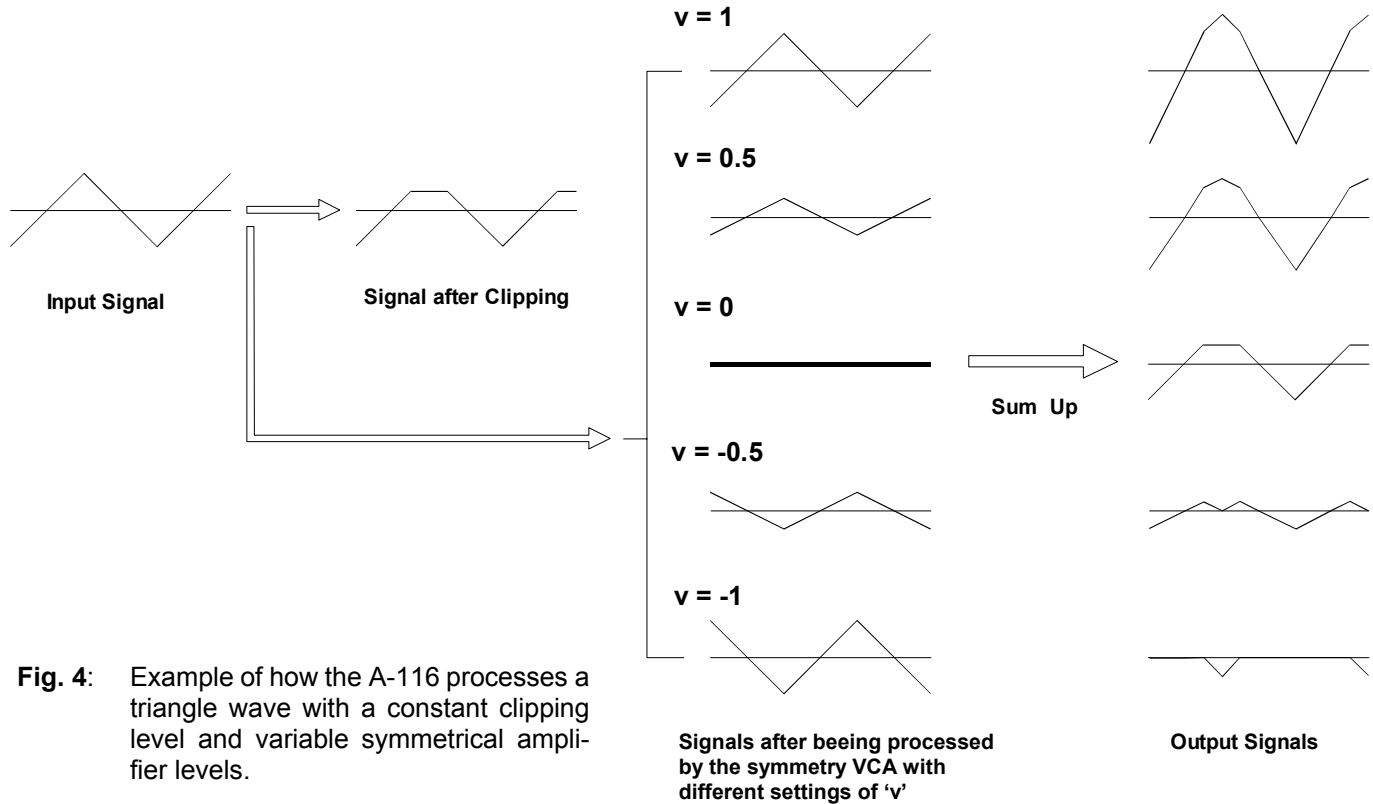

Fig. 4: Example of how the A-116 processes a triangle wave with a constant clipping level and variable symmetrical amplifier levels.
- Fig. 4 shows an example of the different waveforms which emerge from clipping a triangle wave and putting it through different amounts of symmetrical amplification.